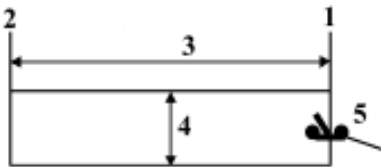

Figure 1: Calibrating traveling guns.
To calibrate a traveling gun system (see Figure 1):
- D = Travel distance, in feet (3 in Figure 1).
- E = Width of the wetted area, in feet (4 in Figure 1).